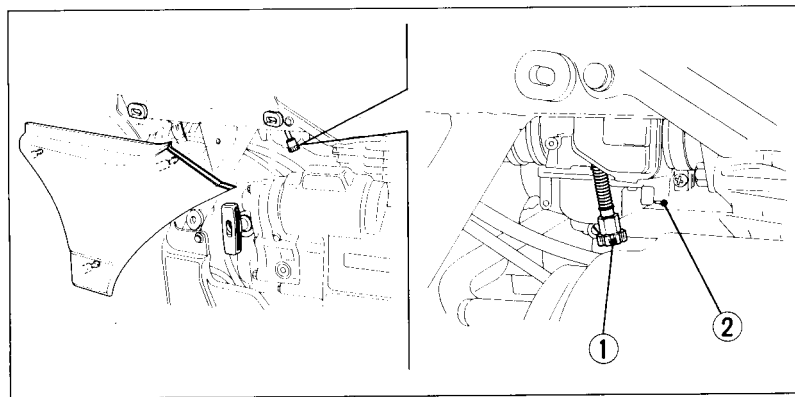

Fig. 4-9
Before adjusting the idle speed and air-fuel mixture, unsnap the right side cover. (Fig4-9)
2. Adjust idle speed by turning the throttle stop screw (Fig. 4-9). Idle Speed: $1,400 \pm 100$ rpm.